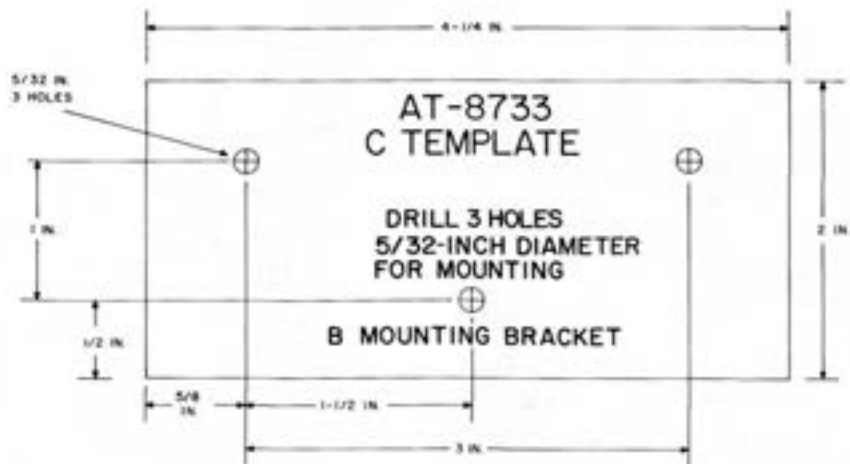

Fig. 17—C Template for Use on a Recreational Vehicle
- Template, C (for use on RV, Fig. 17).
2.13 The C template (Fig. 17) is used by the customer to locate the pilot holes on the recreational vehicle for the three thread cutting screws used to mount the B mounting bracket. It is printed
- One C template used to drill holes for mounting bracket on vehicle (Fig. 17)
- (b) Change Fig. 17